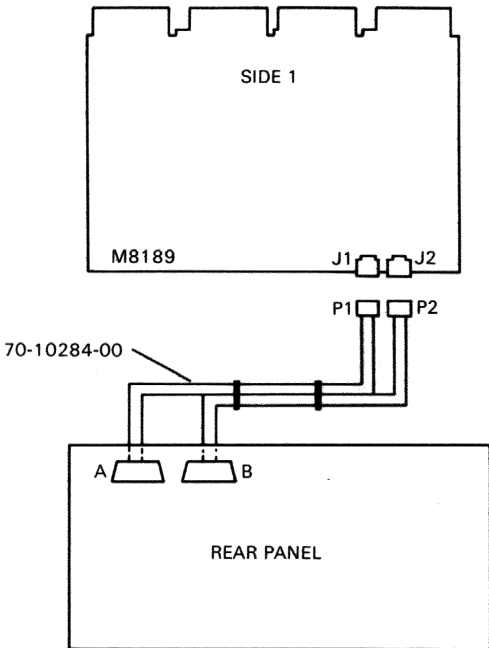

Figure 8 Cable Layout
7. Fit cable connections to PCB (see Figure 8)